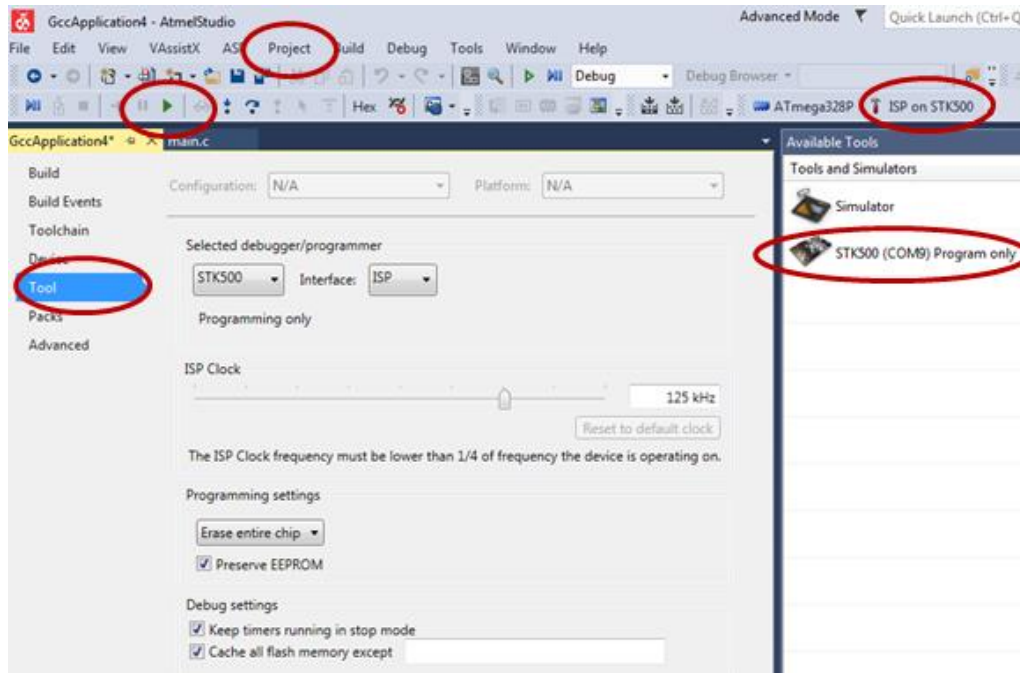

Figure 9 ISP programmer selection
- The built project can now be written into the microprocessor's flash memory. Click *Project* in the menu and select *Properties* which will open a page as shown in Figure 9 below. Click *Tool* and select the *STK500* (compatible to the Pololu), the device is ATmega328P, and the Interface is ISP. Save the page. You can also use the button "*ISP on STK500*" shown in the right-top corner of the figure.
- You can now download the hex file from the *Device Programming* in the *Tools* menu. However, Atmel Studio 7 supports a short-key in the *Debug* menu and *Continue* (Shortcut key F5) which is shown as a play-icon (▶) in Figure 9. By clicking this button (or F5), the code will be *built* and *downloaded* using the selected programmer, which is quite convenient. The Pololu programmer LEDs will be busy during downloading.